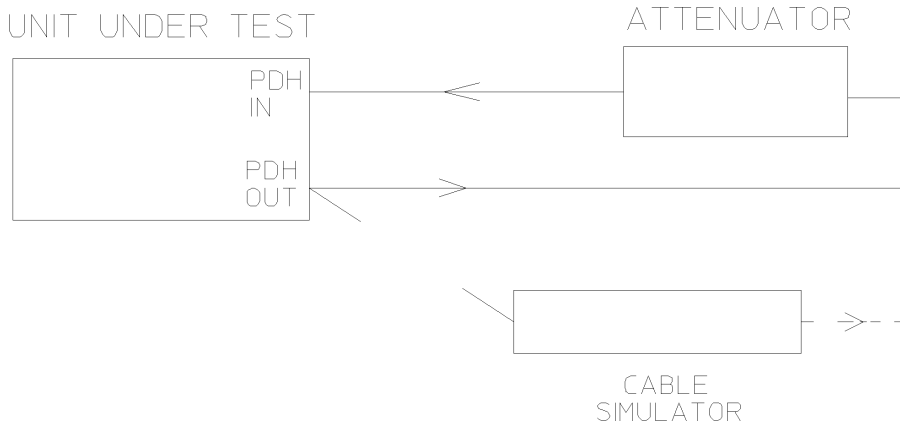

Figure 3-1 Receiver Monitor Input
- 2 Connect the equipment as shown in Figure 3-1.